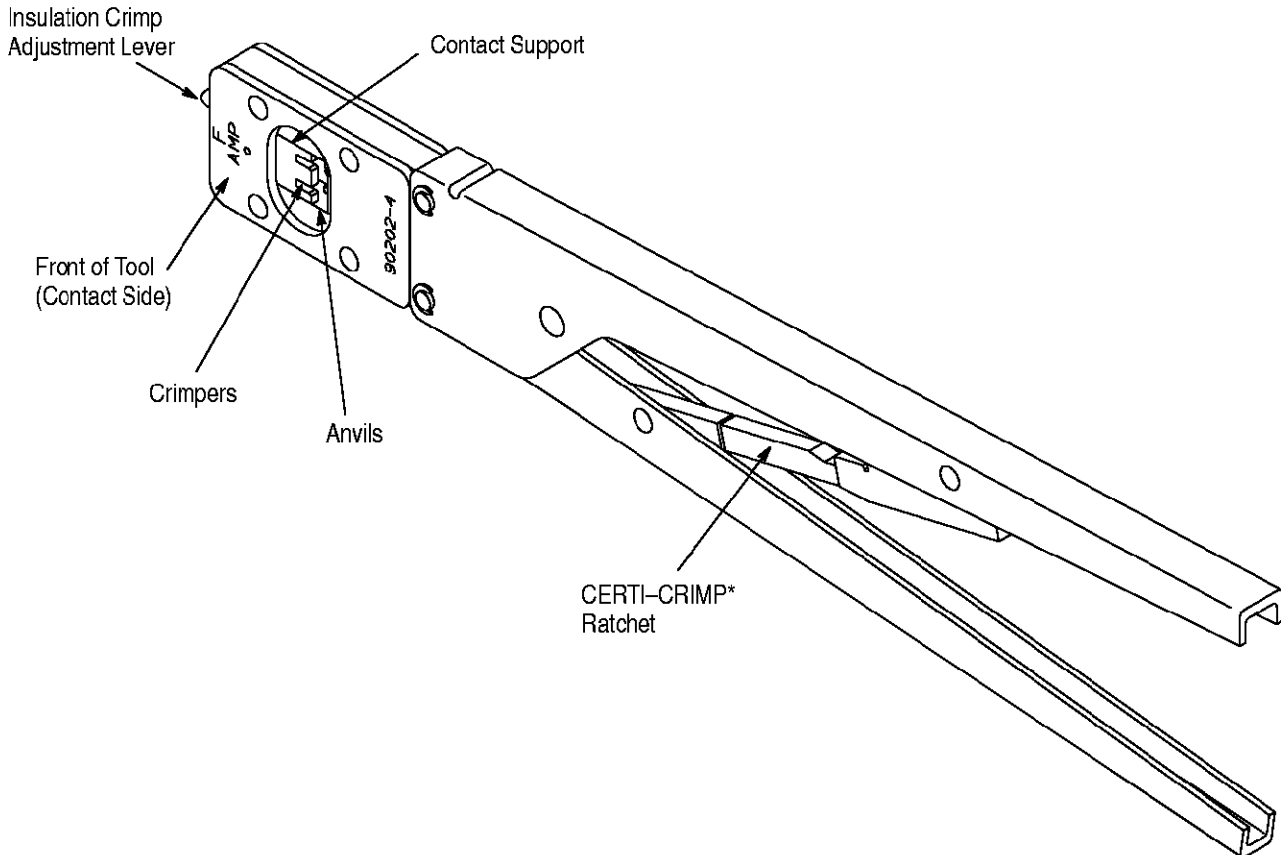

Figure 1
2. DESCRIPTION (Figures 1 through 3)